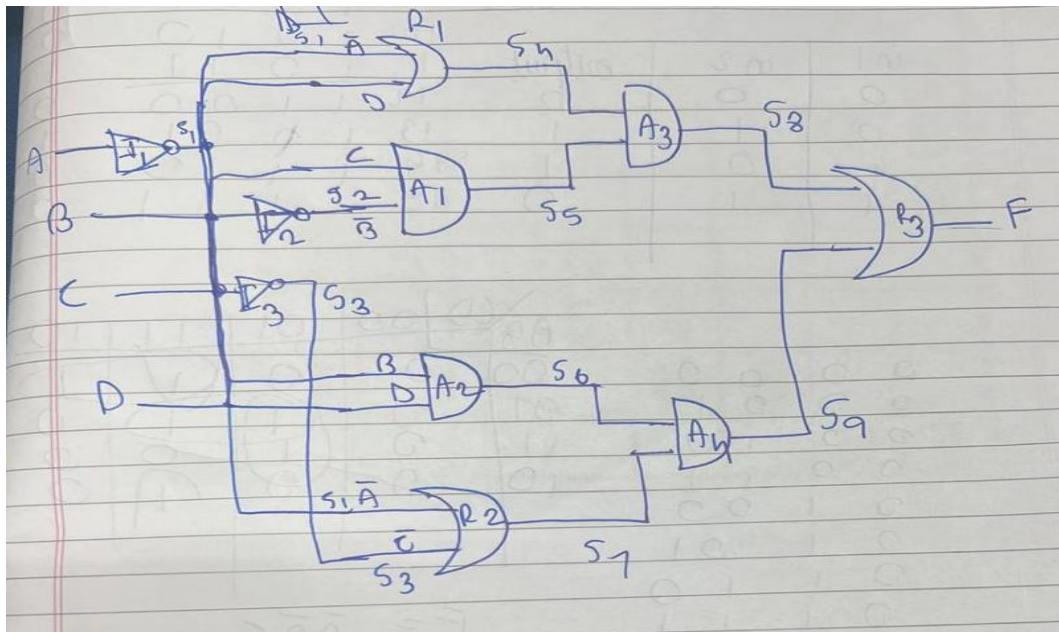

Fig 1
- Therefore, the possible figure of circuit is given in Fig 1